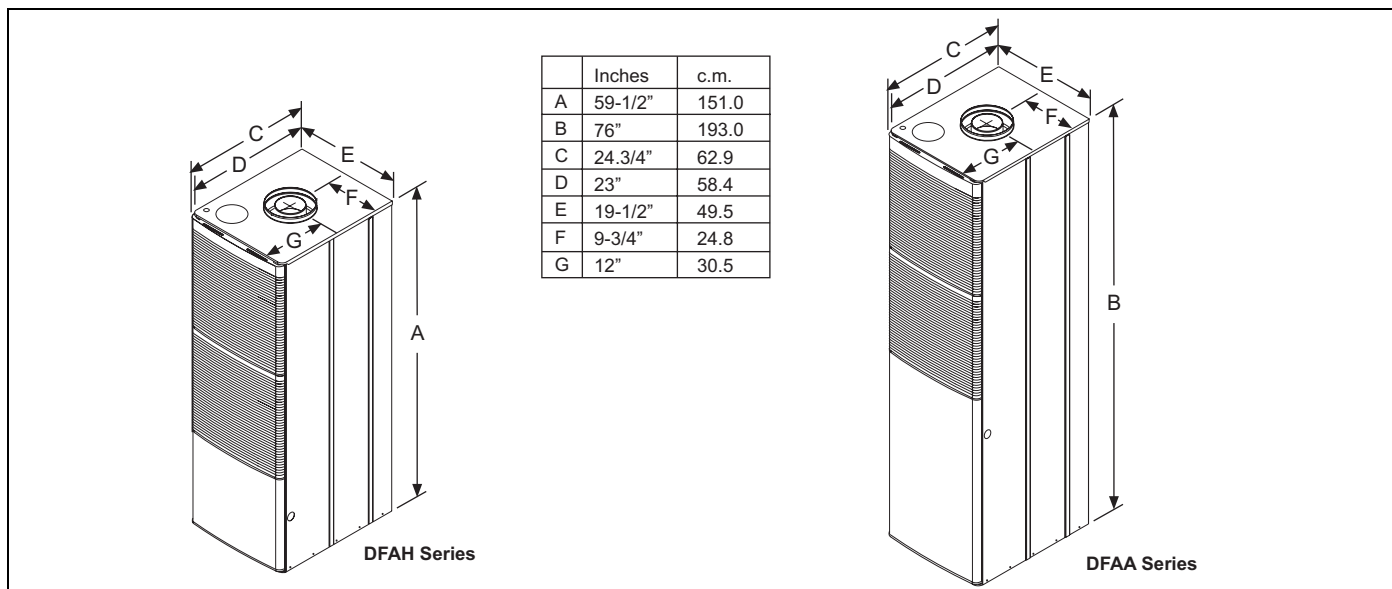

FIGURE 2: Dimensions
- Refer to the unit rating plate for the furnace model number, and then see the dimensions page of these instructions for return air door dimensions in Figure 2. The filter(s) must be installed according to the instructions.